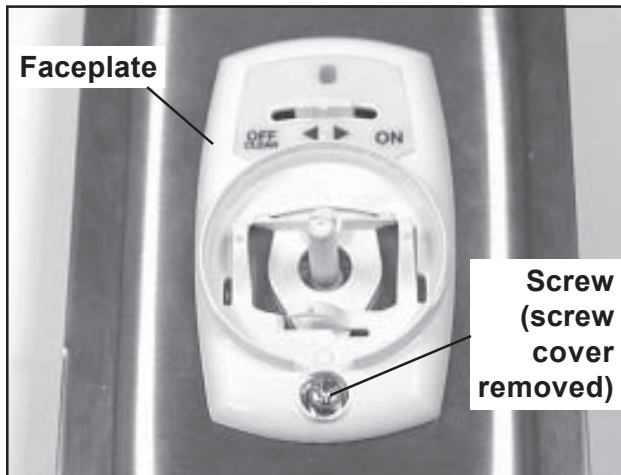

Figure 35. 24-hour Timer - Dial and Screw Cover Removed
6. With a Phillips screwdriver, remove the screw that was covered by the plastic screw cover (Figure 35).
3. Install the faceplate on the metal cover plate (Figure 35). **Note:** The transparent tube projecting under the faceplate goes into the upper screw hole on the metal cover plate.
4. Secure the parts together by installing the screw that goes under the plastic screw cover (Figure 35).